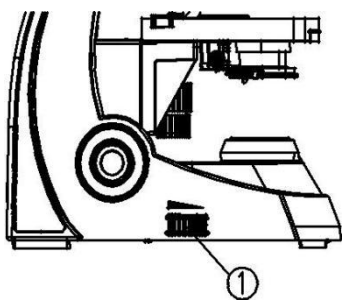

Figure 07
2. Adjust the dimming hand wheel ① to adjust the lighting brightness to a comfortable level. Turn the dimmer hand wheel clockwise to increase the voltage and make it bright (as Figure 07)